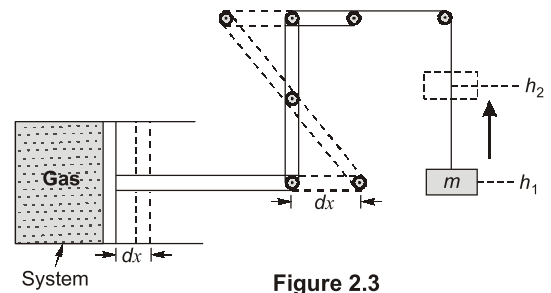

Figure 2.3
- From fig 2.3, it can be seen that expansion of the gas gets reduced to raising of a mass against gravitational force.